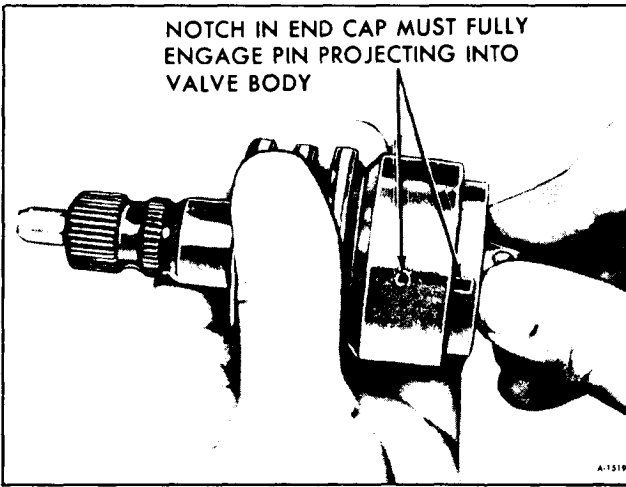

Figure 37—Installing Stub Shaft Assembly
5. If the small notch in the skirt of the valve body is excessively worn, the complete valve assembly will have to be replaced. See Figure 37.
6. Align the notch in the shaft cap with the pin in the valve body and press the spool valve and shaft assembly into the valve body (figure 37).